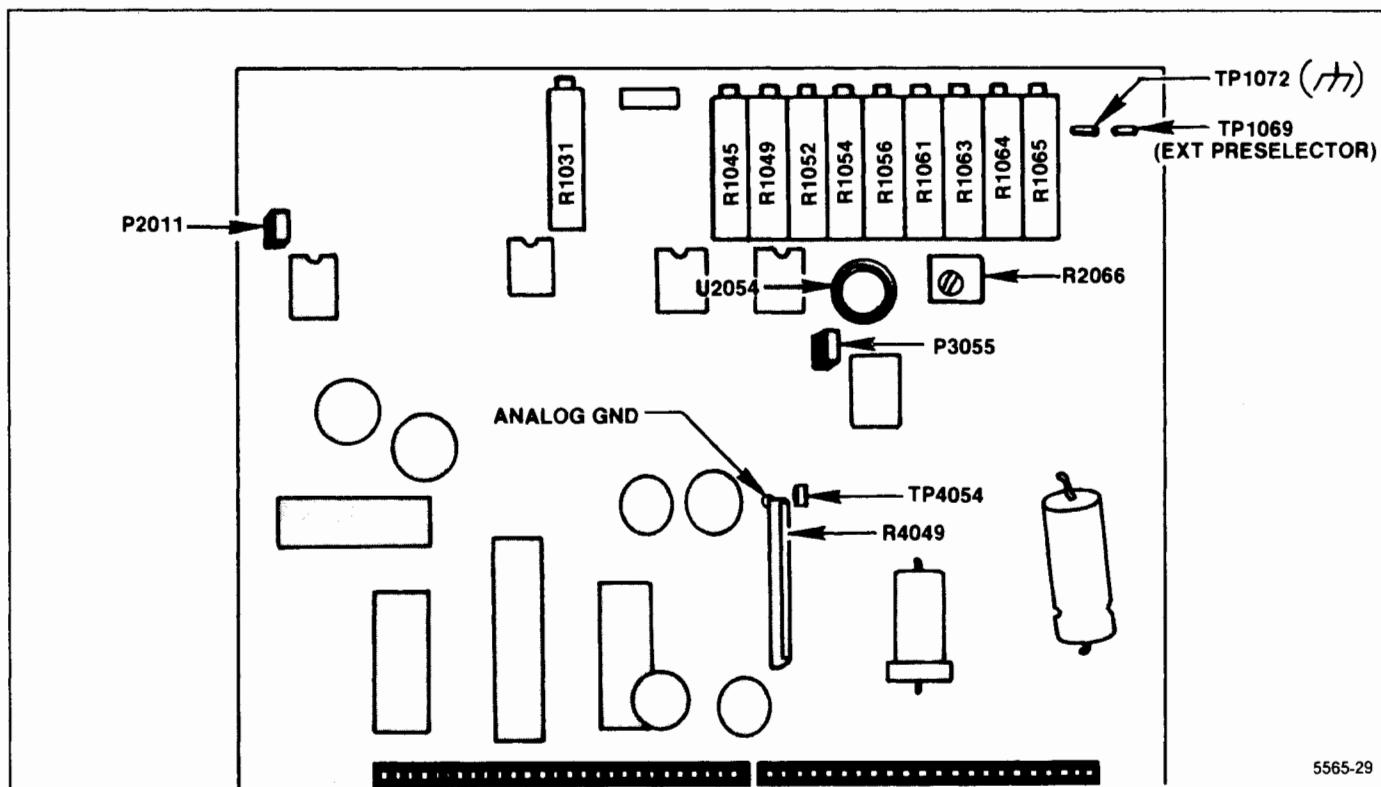

Figure 5-23. Preselector Driver test point and adjustment locations.
e. Set the CF/MARKER FREQUENCY to center the 2.1 GHz marker. Center the Input Offset adjustment R1031 (Figure 5-23), then center the 2.1 GHz marker with the CF/MARKER FREQUENCY control. Ground TP1069 with a jumper strap.
g. Peak the 2.1 GHz signal with the -829 MHz IF Offset R1049 (Figure 5-23).
- n. Increase FREQUENCY to the 12 GHz marker, then peak the 12 GHz point with Shaper #1 R1054 adjustment (Figure 5-23).
- u. Adjust -829 MHz IF Offset R1049 (Figure 5-23) to peak the 3.5 GHz response.
- x. Tune the 19 GHz marker to center screen then peak the 19 GHz signal with Shaper #3 R1061 adjustment (Figure 5-23).